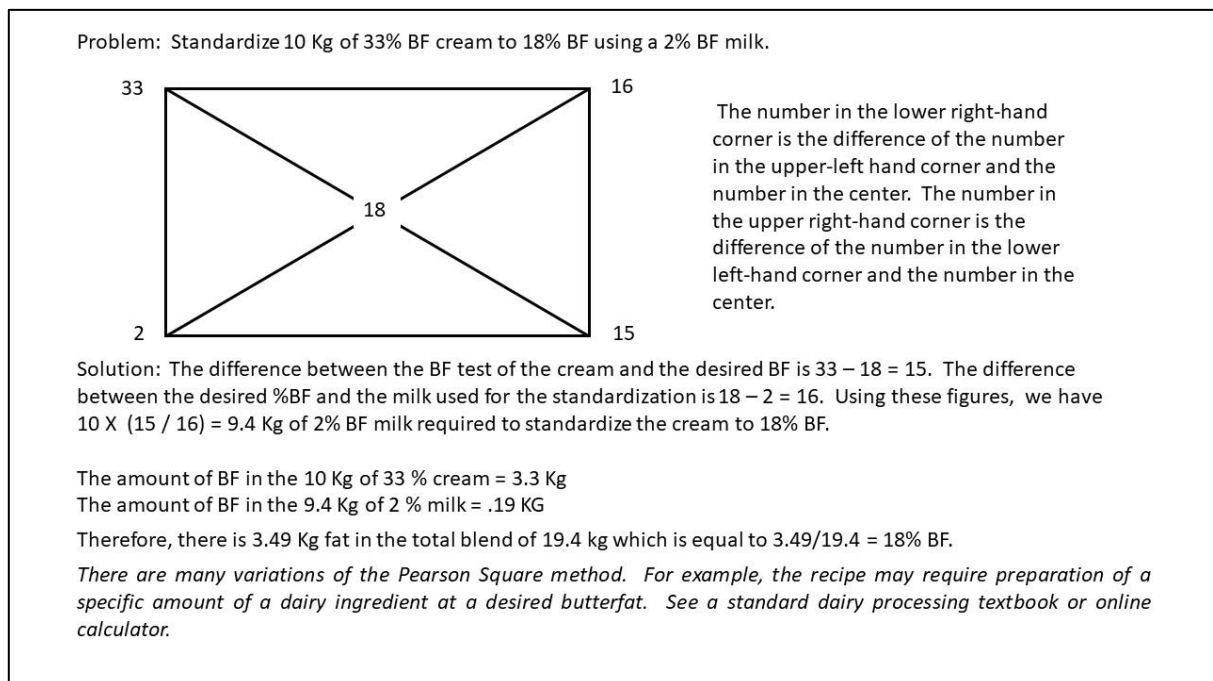

Figure 2 Standardizing Milk using Pearson Square Method.
Standardization is a method used by dairy processors to adjust (raise or lower) the fat (BF) and milk solids not fat content of milk (MSNF). Milk is **standardized** to provide a variety of milk products with different composition. There are many online sources that can perform the algebra used for the standardization of milk ingredients. Traditionally, this calculation has been done in dairy processing plants using a simple technique called the Pearson Square. An example calculation is shown in Figure 2, Standardizing Milk using Pearson Square Method.